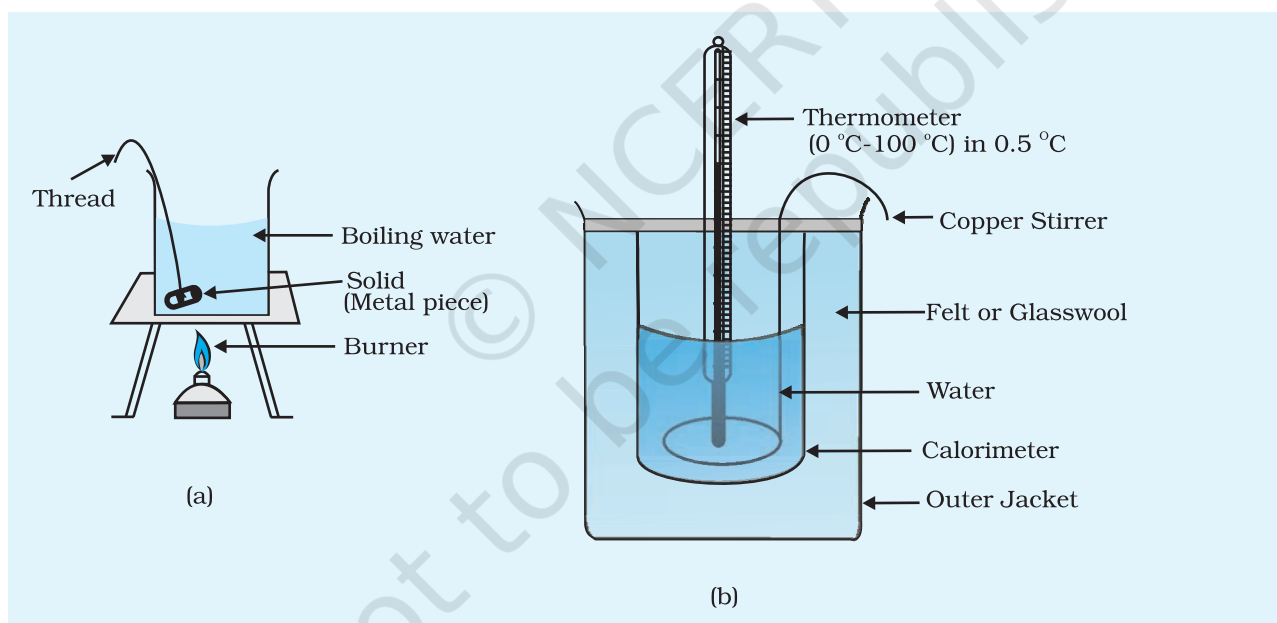

Fig. E 17.1: Experimental setup for determining specific heat of a given solid
Place a 250 mL beaker on the wire gauze kept on a tripod stand as shown in the Fig. E 17.1(a). Fill the beaker up to the half with water. Now suspend the solid in the beaker containing water by tying the other end of the thread to a laboratory stand. The solid should be completely submerged in water and should be at least 0.5 cm below the surface. Now heat the water with the solid suspended in it [Fig. E 17.1 (a)].
remove it from the boiling water, shake it to remove water sticking on it and quickly put it in the water in the calorimeter and replace the lid immediately (Fig. E 17.1 (b)). Stir the water with the stirrer. Measure the temperature of the water once equilibrium is attained, that is, temperature of the mixture becomes constant. Record this temperature as t_3 .
Place a 250 mL beaker on the wire gauze kept on a tripod stand as shown in Fig. E 17.1(a). Fill the beaker up to half with water. Now suspend the solid in the beaker containing water by tying the other end of the thread to a laboratory stand. The solid should be completely submerged in water and should be at least 0.5 cm below the surface. Now heat the water with the solid suspended in it [Fig. E 17.1(a)].
6. Let the liquid in the beaker boil for about 5-10 minutes. Now measure the temperature t_2 of the liquid with the other thermometer and record the same. Holding the solid with the thread tied to it remove it from the boiling water, shake it to remove water sticking on it and quickly put it in the liquid in the calorimeter and replace the lid immediately [Fig. E 17.1(b)]. Stir it with the stirrer. Measure the temperature of the liquid once equilibrium is attained, that is, temperature of the mixture becomes constant. Record this temperature as t_3 .